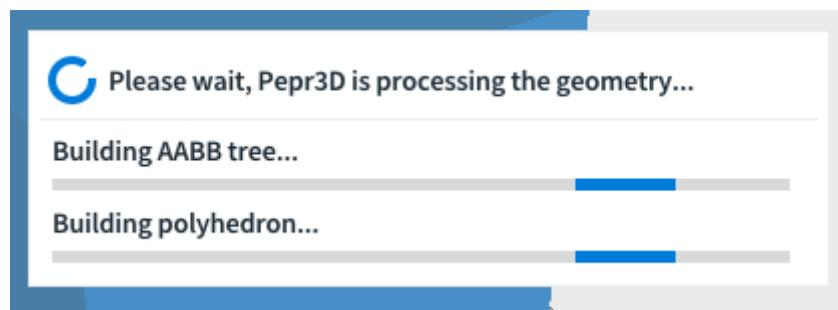

Figure 7.3: Example of a progress indicator during import.
**Progress indicator** A progress indicator is an animated dialog (see Figure 7.3) which shows the elapsed and remaining progress required to process the current command. It is used mostly when opening, saving, importing, and exporting geometry files, or computing SDF, because these are slow operations. Its logic is handled in the `ProgressIndicator` class which has a pointer to the `Geometry` which is being loaded. The current status is checked directly from the geometry data every frame.